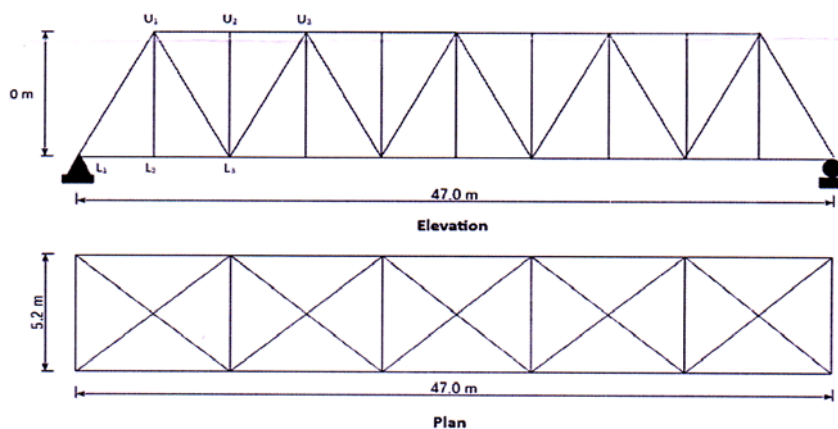

Fig.2
**Q5)** Figure 2 shows the schematic of a single line BG railway bridge. The details for bridge are as follows. [18]